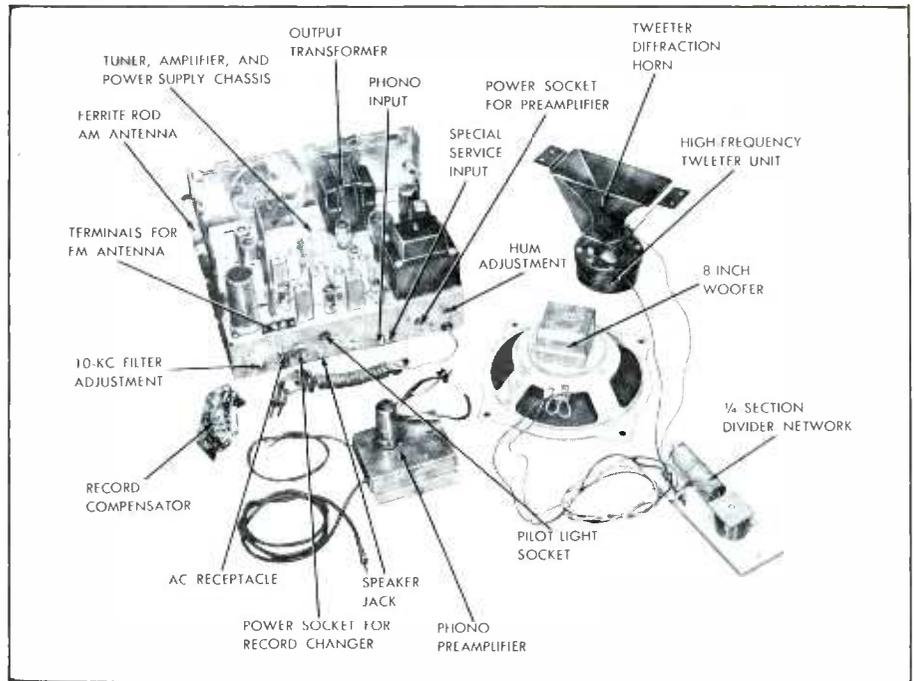

Fig. 2. View of Equipment Used in Capehart Model RP-154.
The 8-inch woofer, high-frequency tweeter, and the divider network are shown in Fig. 2. These mount in the left half of the cabinet which is enclosed on all sides. The cubic content of the resulting enclosure is sufficient for good matching with the 8-inch woofer. No sound-deadening material is used on the interior surfaces of the enclosure.
Frequency division and smooth response at the crossover point are provided by: (1) a simple quarter-section divider network (Figs. 2 and 5) employing a 4-mfd capacitor and a 0.47-mh coil, (2) the rather sharp